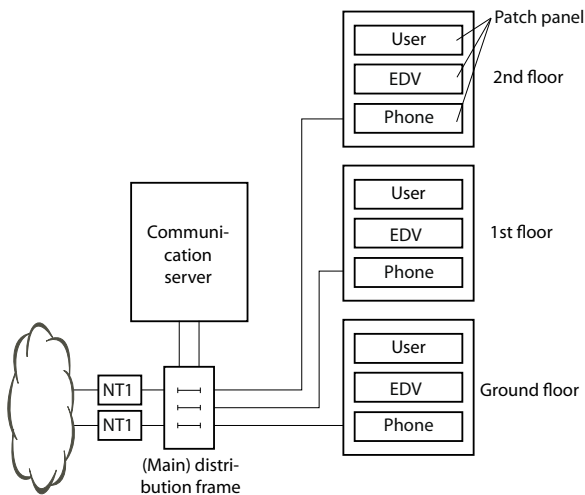
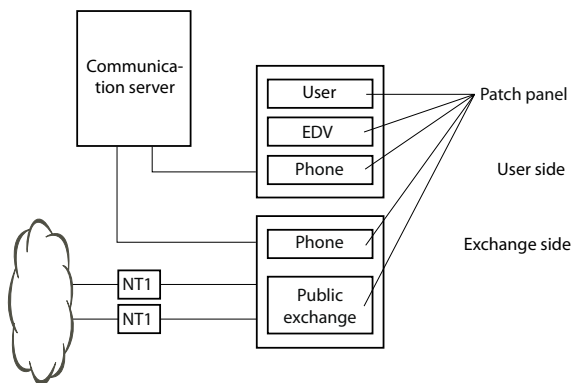

Fig. 28 Connecting to a UBC via a (main) distribution board (example)
Fig. 29 Connecting to a UBC via wiring centre (example)
- Indirect cabling via (main) distribution frame and any universal building cable installation (UBC) (see also Fig. 28 and Fig. 29).